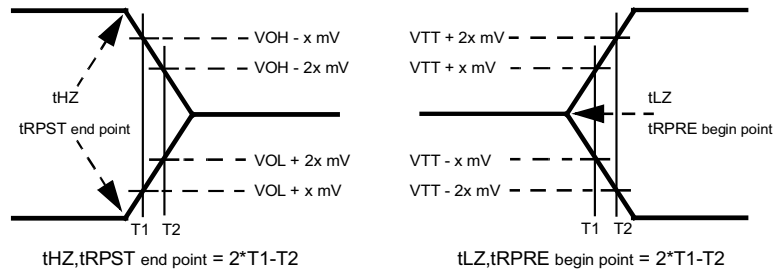

FIGURE 3
- Input waveform timing t_{DS} with differential data strobe enabled MR[bit10] = 0, is referenced from the input signal crossing at the $V_{IH,AC}$ level to the differential data strobe crosspoint for a rising signal, and from the input signal crossing at the $V_{IL,AC}$ level to the differential data strobe crosspoint for a falling signal applied to the device under test. DQS, $\overline{\text{DQS}}$ signals must be monotonic between $V_{IH(DC),MAX}$ and $V_{IH(DC),MIN}$. See **Figure 3**.
- Input waveform timing t_{DH} with differential data strobe enabled MR[bit10] = 0, is referenced from the differential data strobe crosspoint to the input signal crossing at the $V_{IH,DC}$ level for a falling signal and from the differential data strobe crosspoint to the input signal crossing at the $V_{IL,DC}$ level for a rising signal applied to the device under test. DQS, $\overline{\text{DQS}}$ signals must be monotonic between $V_{IL,DC,MAX}$ and $V_{IH,DC,MIN}$. See **Figure 3**.